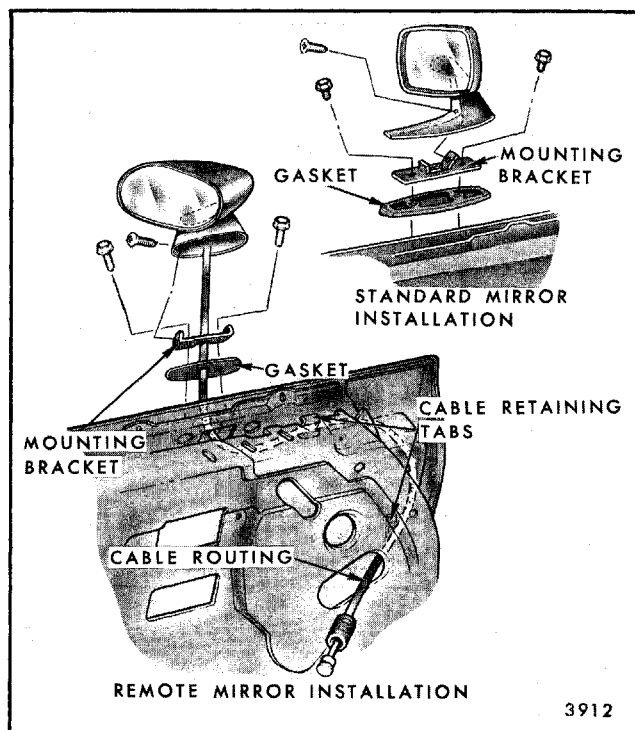
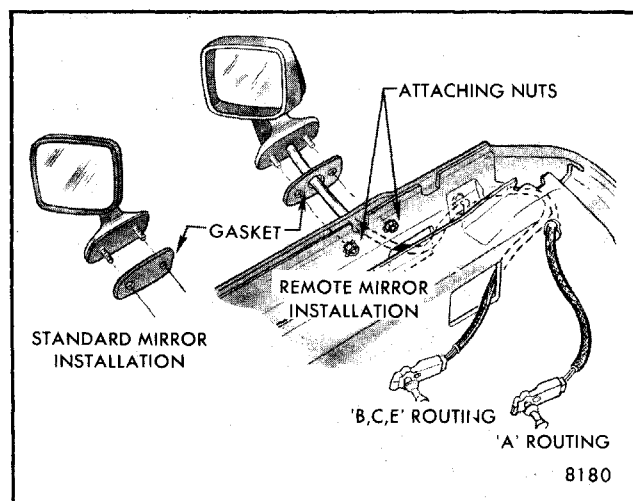

Fig. 5-104-Door Outside Remote Mirror Removal - "F, H (less 07,27) and X" Styles - Left Side Only
Fig. 5-105-Door Outside Mirror - Typical All "A, B, C, E, K and H-07-27" Styles - Left Side
2. Detach cable from any retaining tabs in door (Fig. 5-104).
attaching screw in mirror base and screws in mounting bracket (Fig. 5-104) and remove mirror and cable from door. On all other styles, remove attaching nuts (Fig. 5-105) and remove mirror and cable assembly from door.
1. Remove attaching screw in base of mirror and remove mirror (Fig. 5-104).
2. Remove mirror base to door outer panel stud nuts (Fig. 5-105) and remove mirror from door.